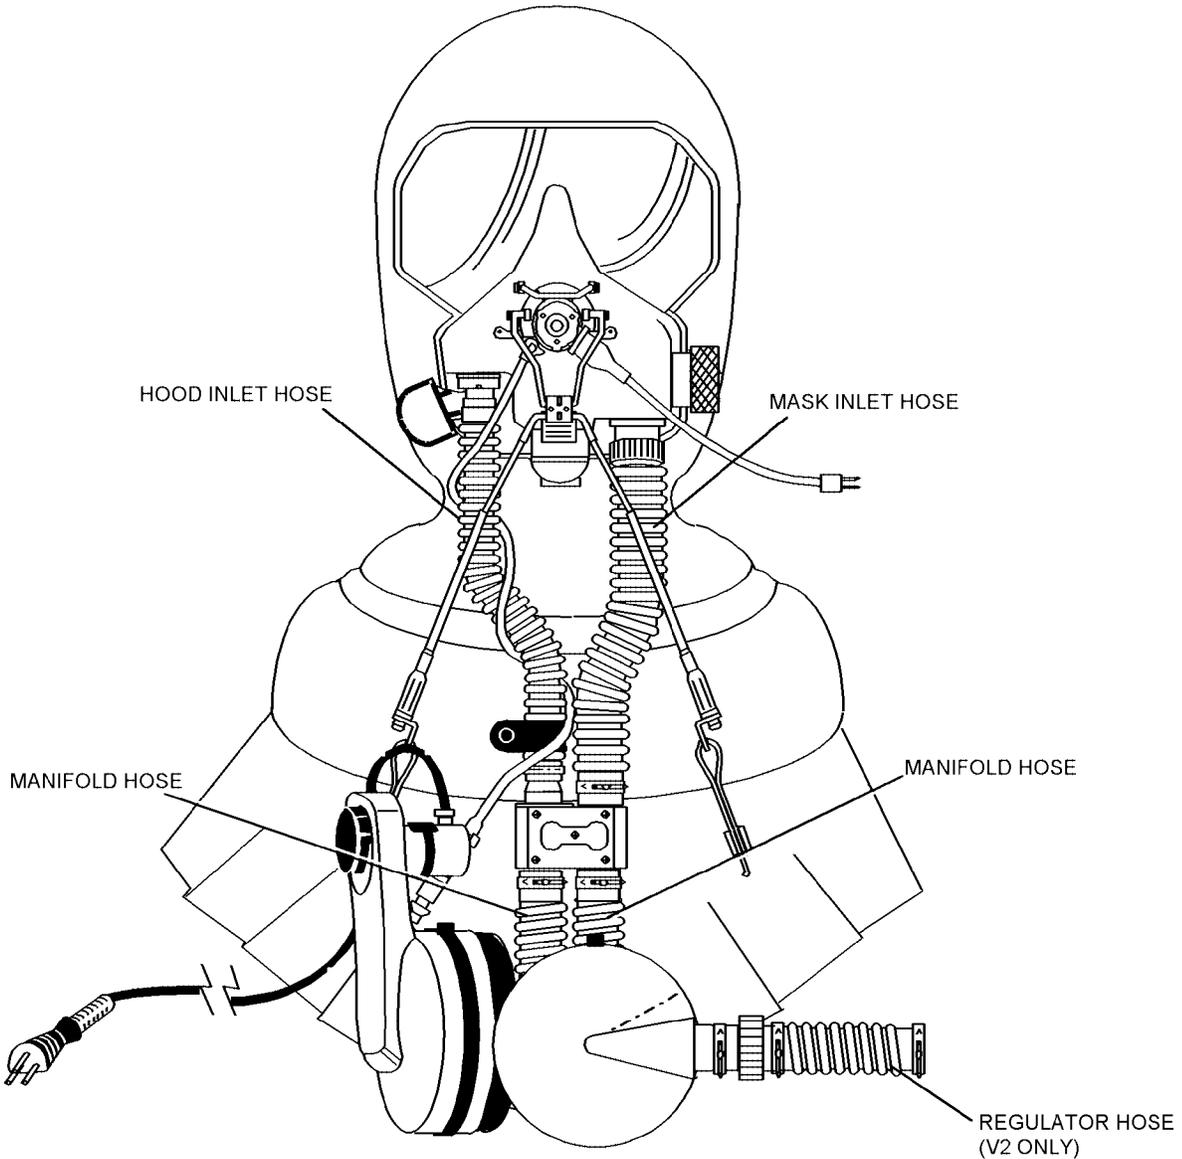

Figure 4-23. Respirator Assembly ((V)2 Variant Shown)
**4-30. Manifold Hoses (figure 4-23).** The manifold hoses are constructed of ethylene propylene rubber, corrugated for flexibility, and are 3 inches in length. The right-side H-manifold hose connects the H-manifold to the pusher fan and canister assembly via the J-manifold. The 3/4 inch end of the hose is secured to the